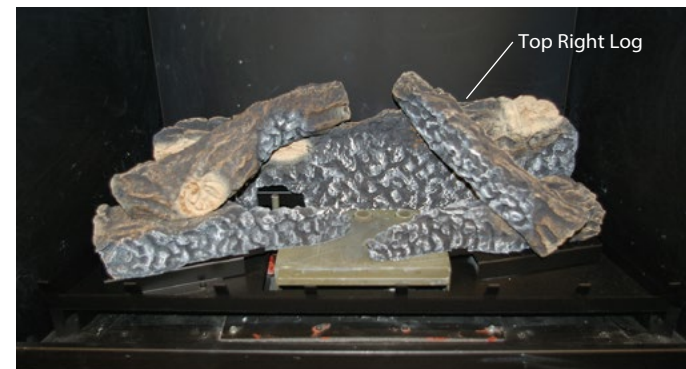

Figure 8e. Top right log placement.
**Step 5.** Place the top right log as shown in **figure 8e**. A notch is provided on the front right log, and an impression in the Rear bottom log.